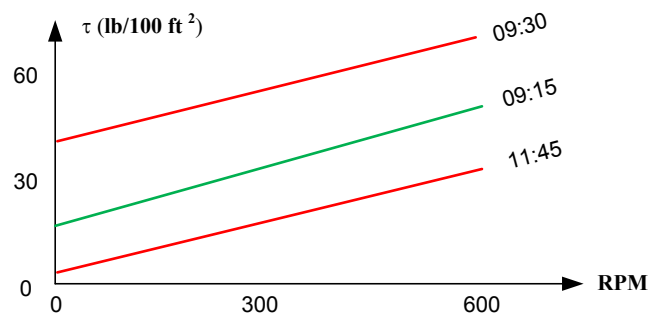

Figure 1-8a: The rheology of the mud at 3 time points
- Rheology monitoring. First we plot the evolution of the rheology vs. time, as shown in Figure 1-8a.